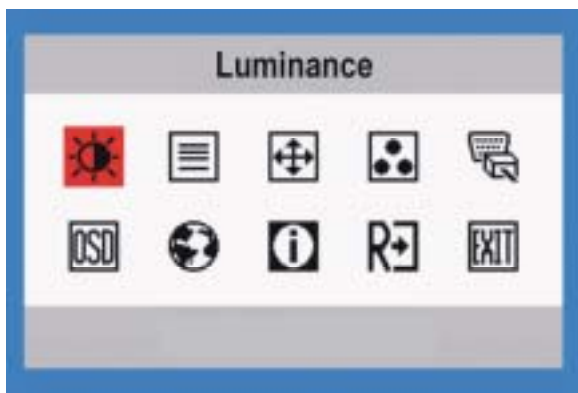

Figure 5 The OSD Message
1. Press the SELECT-button to activate the OSD window (Figure 5).